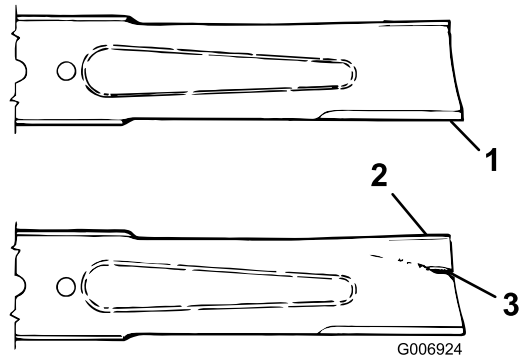

Figure 69
3. Examine the cutting ends of the blade carefully, especially where the flat and curved parts of the blade meet (Figure 69).
4. If wear is noticed (Figure 69), replace the blade; refer to Servicing the Blade Plane \(page 59\).
If the blade is allowed to wear, a slot will form between the sail and flat part of the blade (Figure 69). Eventually a piece of the blade may break off and be thrown from under the housing, possibly resulting in serious injury to yourself or bystanders.